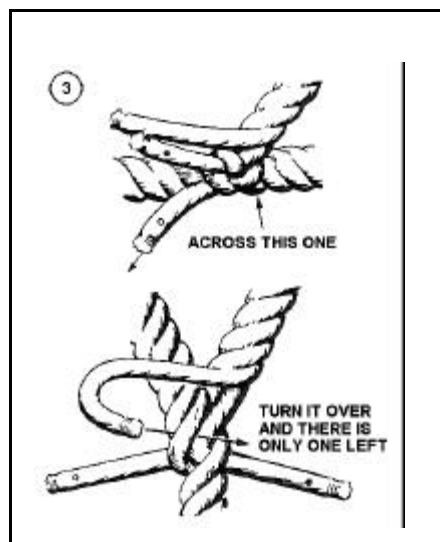

Figure 12-31. Last Tucks of an Eye Splice
- **Step 3.** Now turn the incomplete eye over as shown. Check the third strand to be sure that it has not unlaied more. If it has, twist it back to where it should be. Take the last strand and put it across the standing part, turn its end back toward you, put it under the strand over which the first tuck was made, and tuck it in a direction toward you. This results in the third tuck going to where the second came out and coming out where the first went in. After this round of tucks, there is a strand in each lay (Figure 12-31).